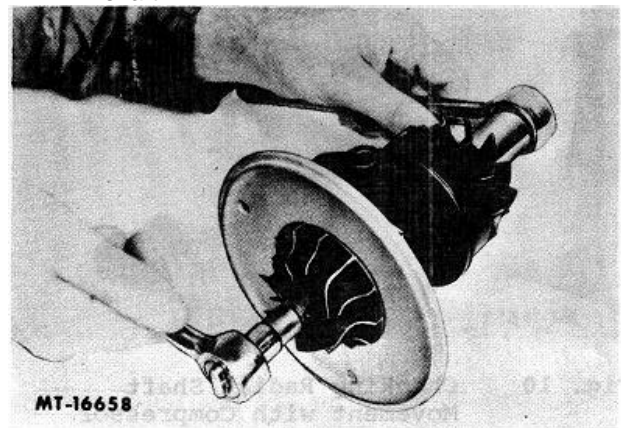

Fig. 14 Lock Nut Removal
6. Remove the lock nut from the turbine shaft (Fig. 14).